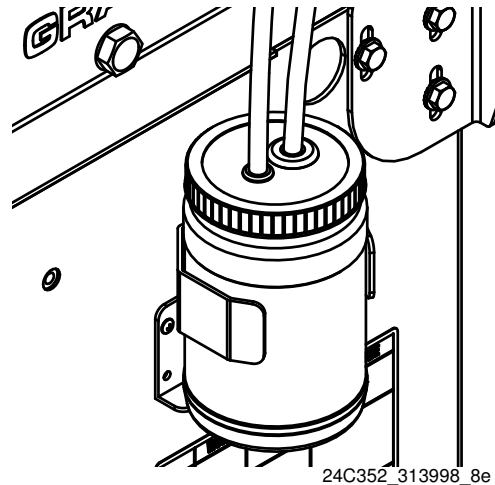

FIG. 26: IsoGuard Select Fluid System
4. Lift the IsoGuard Select fluid reservoir out of the bracket and remove the container from the cap. Holding the cap over a suitable container, remove the inlet check valve and allow the IsoGuard Select fluid to drain. Reattach the check valve to the inlet hose. See FIG. 26.